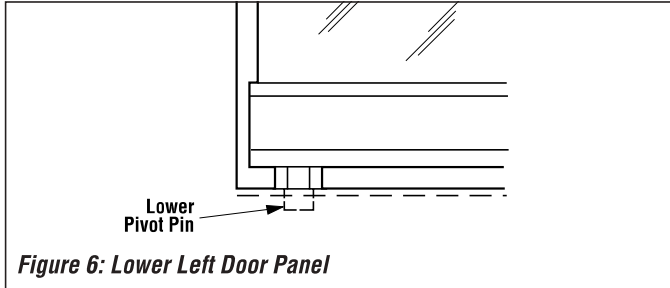

Figure 6: Lower Left Door Panel
Step 2. Swing the lower outer corner of the door over the hole in the lower frame of the firebox opening, and insert the lower pivot pin into the hole (**Figures 6 and 7, below**).